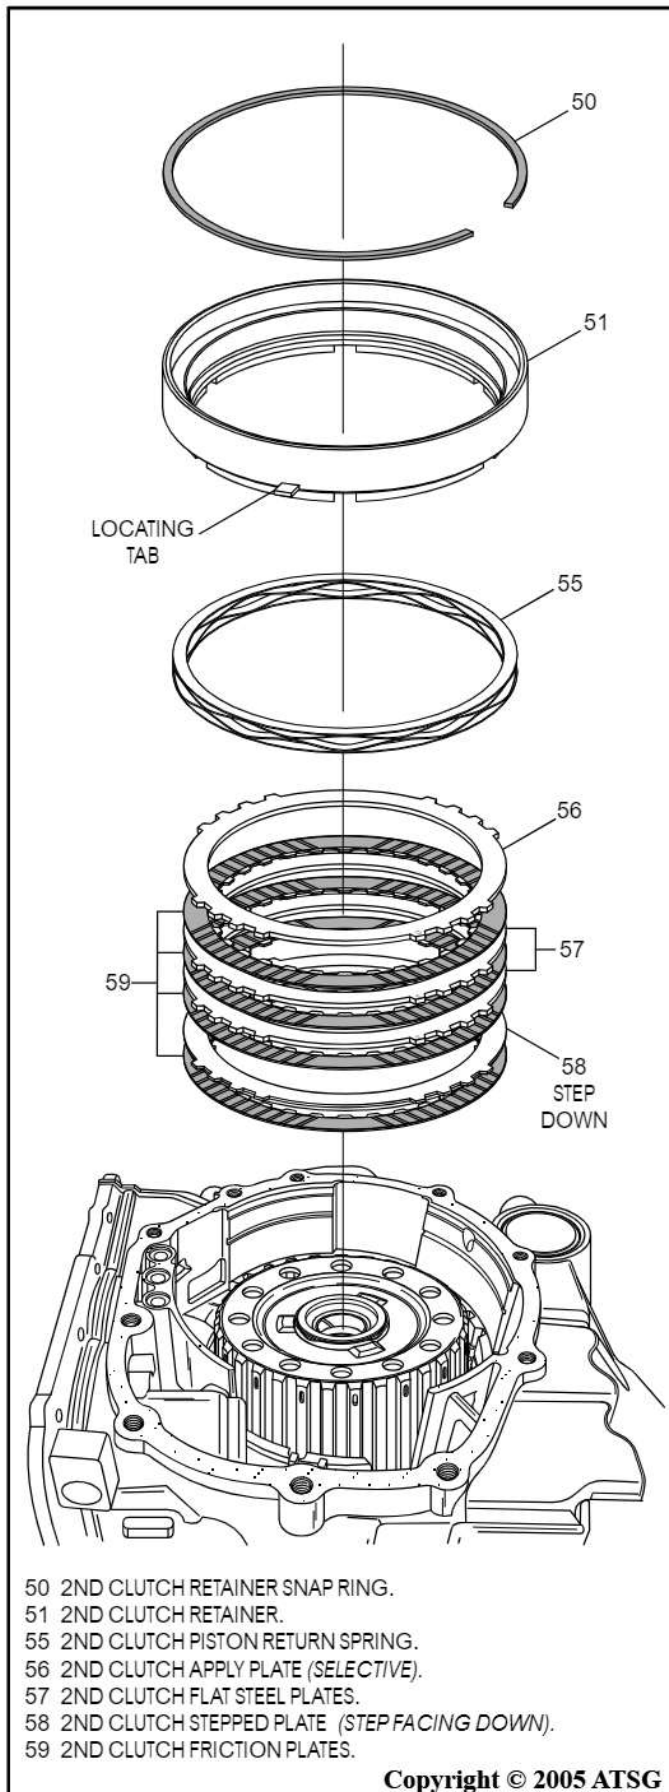

Figure 182
58. Now re-install the 2nd clutch plates beginning with 1 friction plate, as shown in Figure 182.
59. Install the "Stepped" apply plate, as shown in Figure 182, with the **step facing down**.
60. Install the remaining friction and steel plates, as shown in Figure 182.
61. Install the selective apply plate, as shown in Figure 182.
62. Install the 2nd clutch piston return spring, as shown in Figure 182.
63. Install 2nd clutch piston and retainer assembly, as shown in Figure 182, and install snap ring.
- Note:** Ensure that locating tab is engaged into the case groove (See Figure 182).